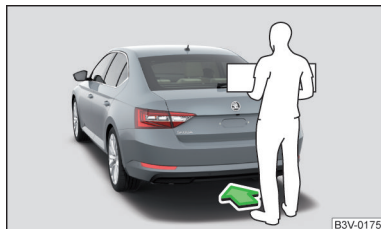

Fig. 57
► To **open/close**, move one foot in the sensor area below the rear bumper quickly in the direction of the arrow » Fig. 57.